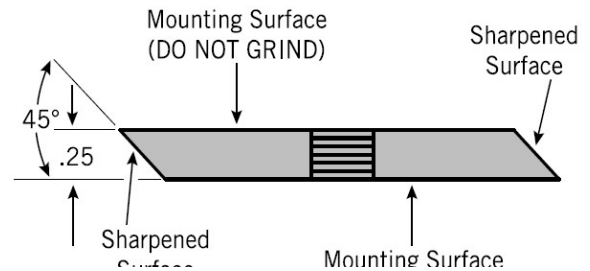
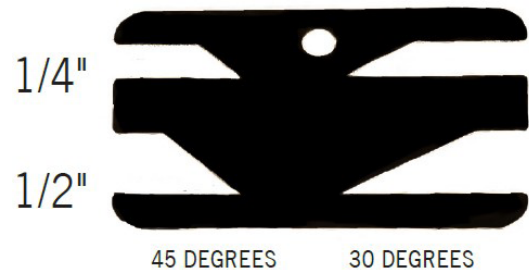

Figure 5.2, Chipper Blade Surfaces
Figure 5.3, Blade Angle Gauge Plate
2. Regrind the angled edge of the chopping blades to 45 degrees (Figure 5.2). Use the blade angle gauge plate when sharpening the blades to achieve the proper angle (see Figure 5.3).